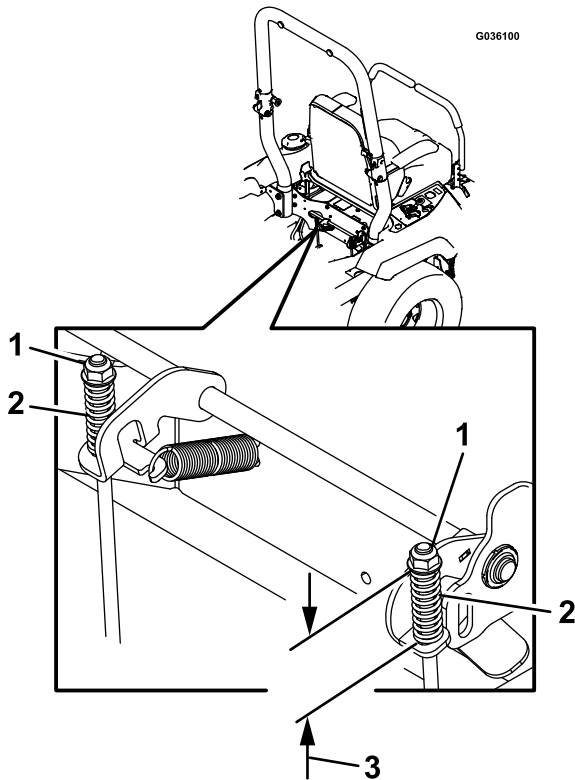

Figure 91
7. Check both spring lengths as shown in Figure 91. If an adjustment is necessary, turn the top nut clockwise to shorten the spring and counterclockwise to lengthen it.